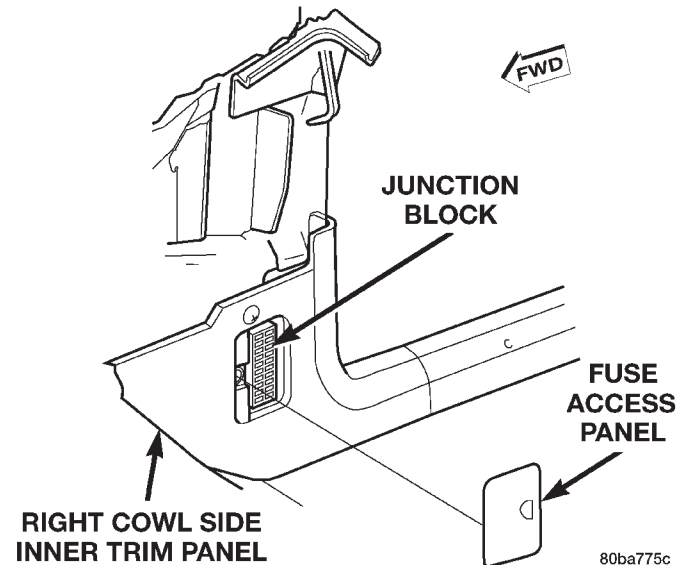

Fig. 2 Junction Block
An electrical Junction Block (JB) is concealed behind the right cowl side inner trim panel in the passenger compartment of the vehicle. The molded plastic JB housing has integral mounting brackets that are secured with three nuts to studs on the right cowl side inner panel below the instrument panel. The right cowl side inner trim panel is secured to a stud on the junction block with a push nut, and a snap-fit fuse access panel that can be removed for service of the junction block fuses conceals the push nut (Fig. 2). A finger recess is molded into the front of the fuse access panel for easy removal, and a fuse puller and spare fuse holders are located on the back of the fuse access panel.